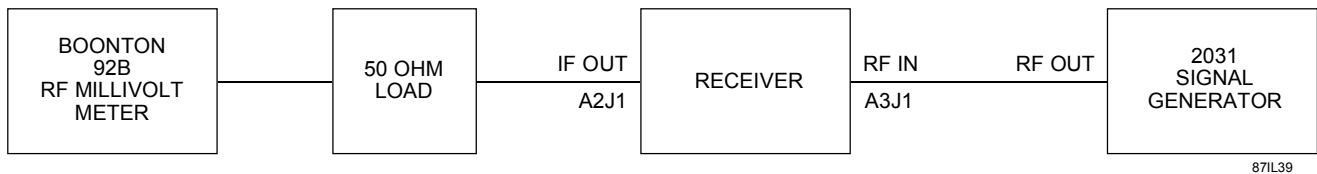

Figure 7-8. Reconstructed IF Output Performance Test Equipment Connection
1. Connect the WJ-8711A Receiver and test equipment as illustrated in *Figure 7-8*.